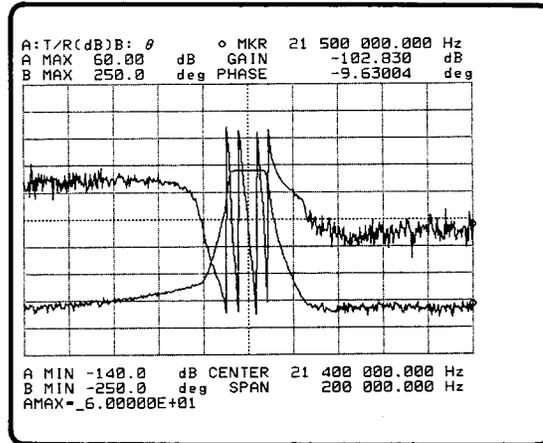

Figure 3-77. A MAX=6.00000E+01
2. Press the '**A MAX (B MAX)**' softkey. A MAX=(current value) will be displayed on Keyboard Input Line as shown in Figure 3-77.